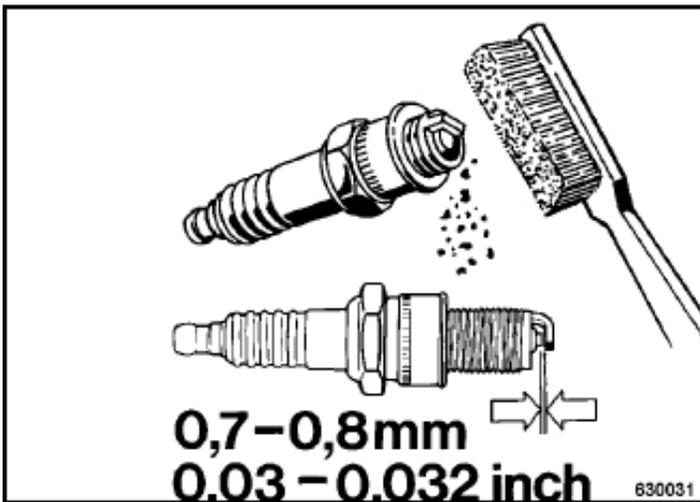

Fig. 38
- 1 Check the spark plug visually and clean it if necessary (Fig. 38).